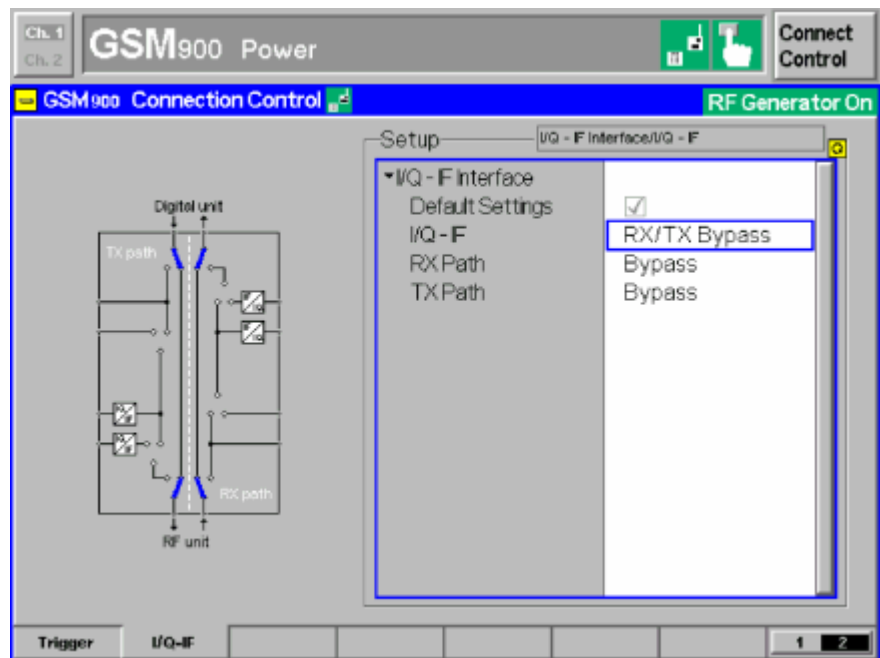
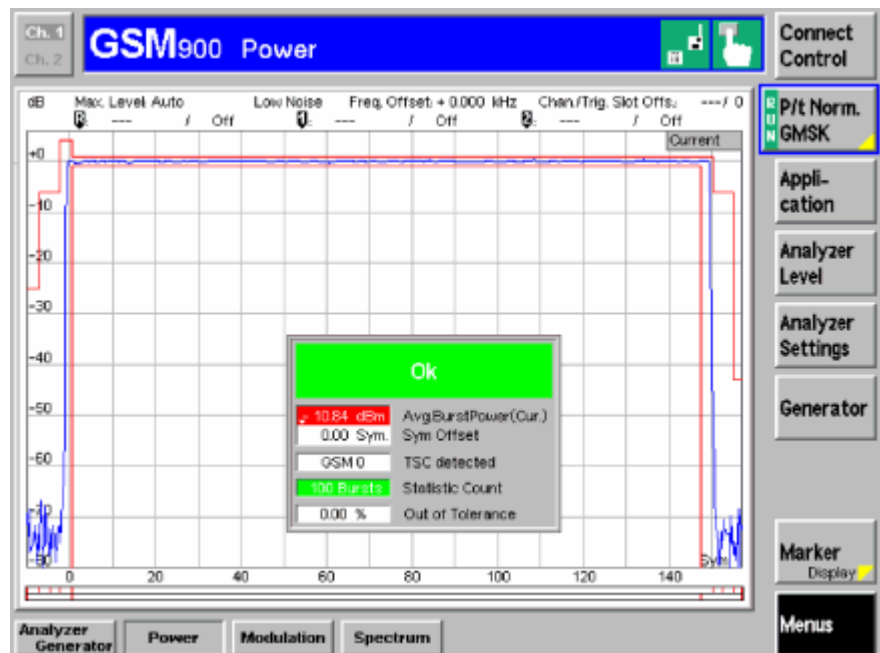
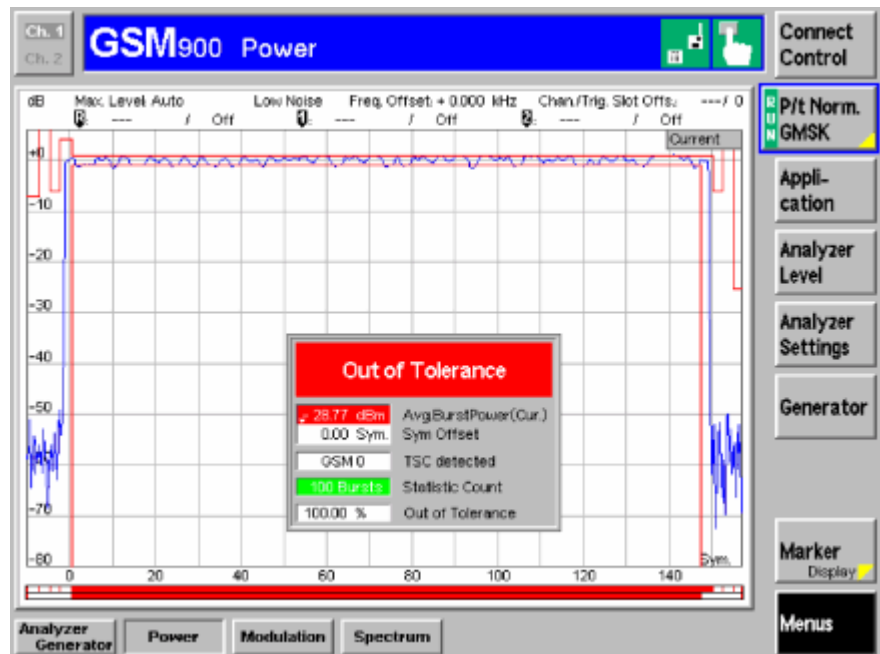

Fig. 8 IQ/IF Bypass Configuration
Fig. 9 Burst Power in Bypass Mode
Fig. 11 Burst Power with Calibration Mode Standard Fading
- Set the IQ/IF board to Bypass mode (Fig.8) in order to obtain the reference Average Burst Power **PREF** (Fig.9).
6. The resulting Average Burst Power P_{MEAS} (Fig. 11) must be subtracted from the reference power P_{REF} (Fig. 9) to obtain the hardware attenuation of the IQ path.